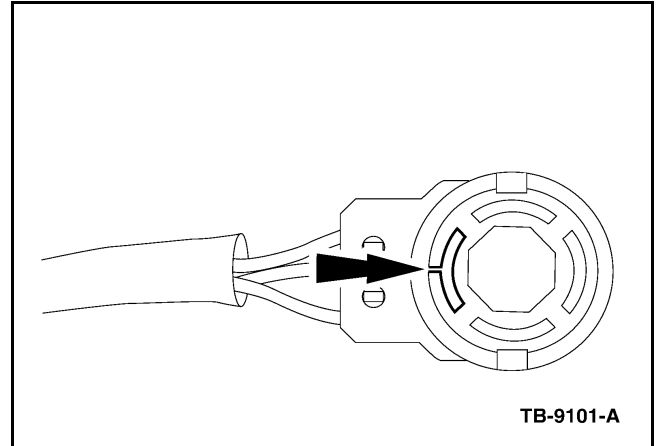

Figure 1 - Article 08-9-2
1. Remove the left hand (LH) front door trim panel. For additional information, refer to Workshop Manual (WSM), Section 501-5.
- a. Verify that the door disarm switch mark is positioned toward the harness side of the switch. (Figure 1)